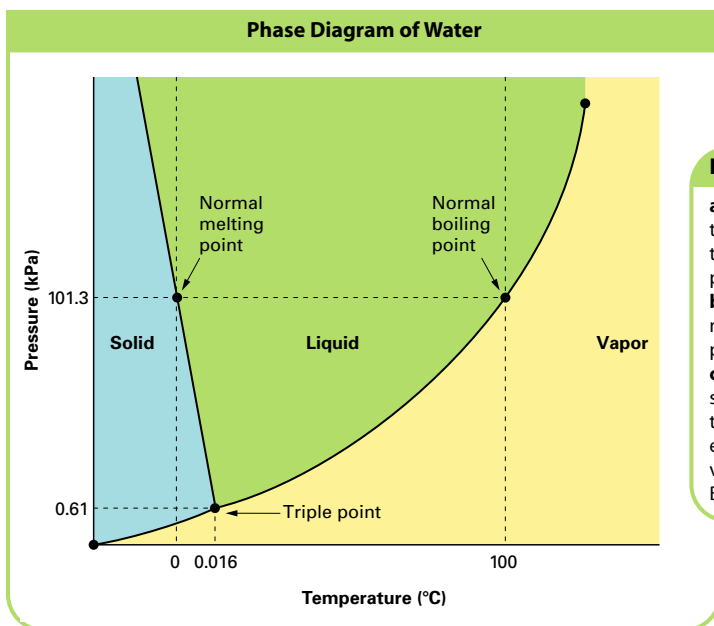

Figure 13.15 The phase diagram of water shows the relationship among pressure, temperature, and physical states of water.
Figure 13.15 shows the phase diagram for water. In each of the colored regions on the phase diagram, water is in a single phase. The curving line that separates water's vapor phase from its liquid phase are the equilibrium conditions for liquid and vapor. The line also illustrates how the vapor pressure of water varies with temperature. The other two curving lines give the conditions for equilibrium between liquid water and ice and between water vapor and ice. The point on the diagram at which all three curves meet is called the **triple point**. The **triple point** describes the only set of conditions at which all three phases can exist in equilibrium with one another. For water, the triple point is a temperature of 0.01°C and a pressure of 0.61 kPa (0.0060 atm). Figure 13.16 shows water at its triple point.
By referring to Figure 13.15, you can determine what happens if you melt ice or boil water at pressures less than 101.3 kPa. A decrease in pressure lowers the boiling point and raises the melting point. An increase in pressure will raise the boiling point and lower the melting point.
The ability to interpret data in graphical format is fundamental to a course in chemistry. To reinforce this skill, have students compare the graph in Figure 13.9 to the graph in Figure 13.15. Ask students which line on the phase diagram corresponds to the curve for water in Figure 13.9. (*the line between liquid water and water vapor*)
Look at Figure 13.15. Follow the equilibrium line between liquid water and water vapor to the triple point. Below the triple point, the vapor and liquid cannot exist in equilibrium. Increasing the pressure won't change the vapor to a liquid. The solid and the vapor are in equilibrium at temperatures below 0.016°C. With an increase in pressure, the vapor begins to behave more like a solid. For example, it is no longer easily compressed.
Figure 13.15 also illustrates how an increase in pressure affects the melting point of ice. For years, the accepted hypothesis for how ice skaters move along the ice was the following. The blades of the skates exert pressure, which lowers the melting point of the ice. The ice melts and a film of water forms under the blades of the skates. This film acts as a lubricant, enabling the skaters to glide gracefully over the ice. This hypothesis fails to explain why skiers also glide along very nicely on another solid form of water—snow. Wide skis exert much less pressure per unit area of snow than narrow skate blades exert on ice. Recent research shows that the surface of ice has a slippery, water-like surface layer that exists well below ice's melting point. Even ice that is at -129°C has this layer. A new hypothesis proposes that the liquid-like surface layer provides the lubrication needed for smooth skating and skiing.
Figure 13.15 Display the figure on an overhead projector. Explain that a phase diagram is a convenient way to summarize the conditions of temperature and pressure at which the solid, liquid, and gas phases of a substance are most stable. Point out that each line in the diagram represents the set of possible temperature-pressure values at which different phases are in dynamic equilibrium with one another. For example, in a closed system at 100°C and 101.3 kPa , liquid water is in dynamic equilibrium with water vapor. (Note that the x- and y-axes are not drawn to scale so that the triple point and normal boiling point can fit on the graph.) Ask, **At what temperature and pressure are the liquid, solid, and vapor phases of water in dynamic equilibrium?** (0.016°C , 0.61 kPa)
- Using Figure 13.15, estimate the boiling point of water at a pressure of 50 kPa.